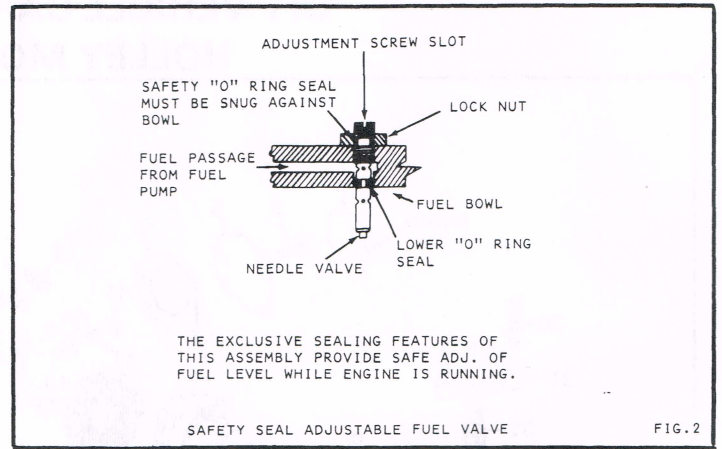
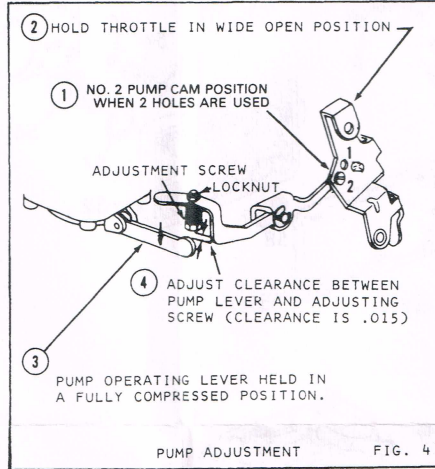

FIG. 2
FIG. 4
2. PUMP ADJUSTMENT. (A) WITH PUMP CAM (SEE FIG. 4) IN NO. 1 POSITION (62-64 RAMBLER AND WILLYS NO. 2 POSITION) (B) (SEE FIG. 2). THROTTLE HELD IN WIDE OPEN POSITION AND THE PUMP OPERATING ARM HELD IN A FULLY COMPRESSED POSITION, CHECK THE CLEARANCE BETWEEN THE ADJUSTING NUT AND THE PUMP OPERATING ARM. THE CLEARANCE SHOULD BE .015. TO ADJUST, TURN SCREW.
5. SLOW IDLE ADJUSTMENT: ENGINE AT OPERATING TEMP., AND CHOKE WIDE OPEN, ADJUST IDLE MIXTURE NEEDLES (15) TO A SMOOTH IDLE. ADJUST IDLE STOP SCREW TO 500-550 R.P.M. (SEE FIG. 4).
PUMP ADJUSTMENT Fig.2
SLOW IDLE ADJUSTMENT Fig.4